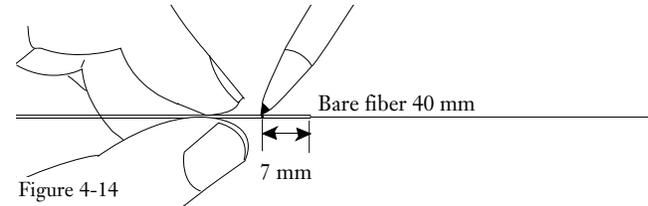

Figure 4-14
4.4-4 Mark the buffer 7 mm back from the strip point with a permanent ink marker (Figure 4-14).